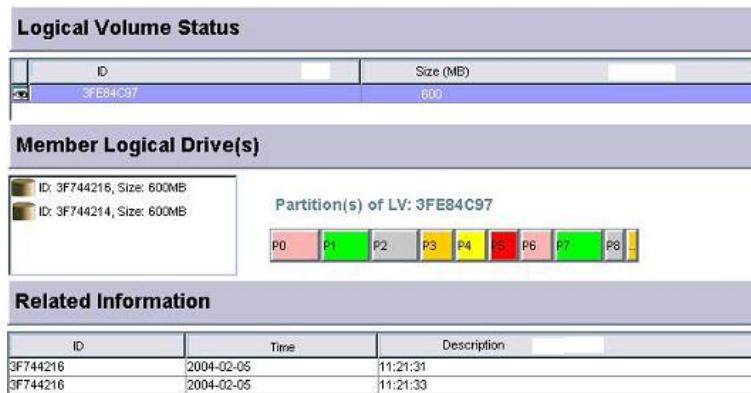

Figure 11-9: Opening Logical Volume Information Display
Step 1. To access the **Logical Volume Information**, single-click its display icon on the navigation panel or select the command from the **Action** command menu. After opening the information window, select a logical volume by single mouse-click. The window defaults to the first volume on the list. A display window as shown in *Figure 11-9* should appear.